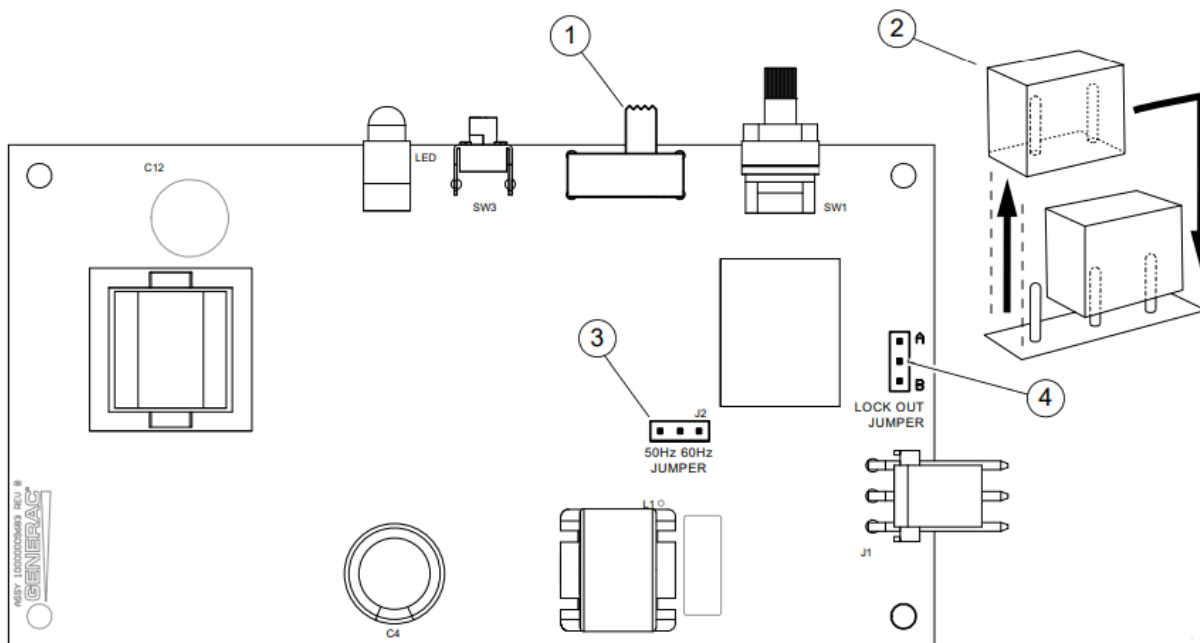

Figure 2-2. Jumper Locations
- **NOTE:** LOCKOUT mode works in an overload condition, which is determined by generator frequency. If generator has sufficient capacity, the load will be allowed to turn on even if control is set to LOCKOUT mode. See Figure 2-2. To set SMM to enable standard lockout mode, slide lockout switch (1) to LOCKOUT LOAD ON GENERATOR.
See Figure 2-2. The SMM control board is equipped with two movable jumpers (2). Jumper locations are indicated on the diagram:
- (3) Frequency Jumper – default for 60 Hz
- (4) Mode Selector Jumper (identified on control board as “Lock Out Jumper”) – position A is default for most applications